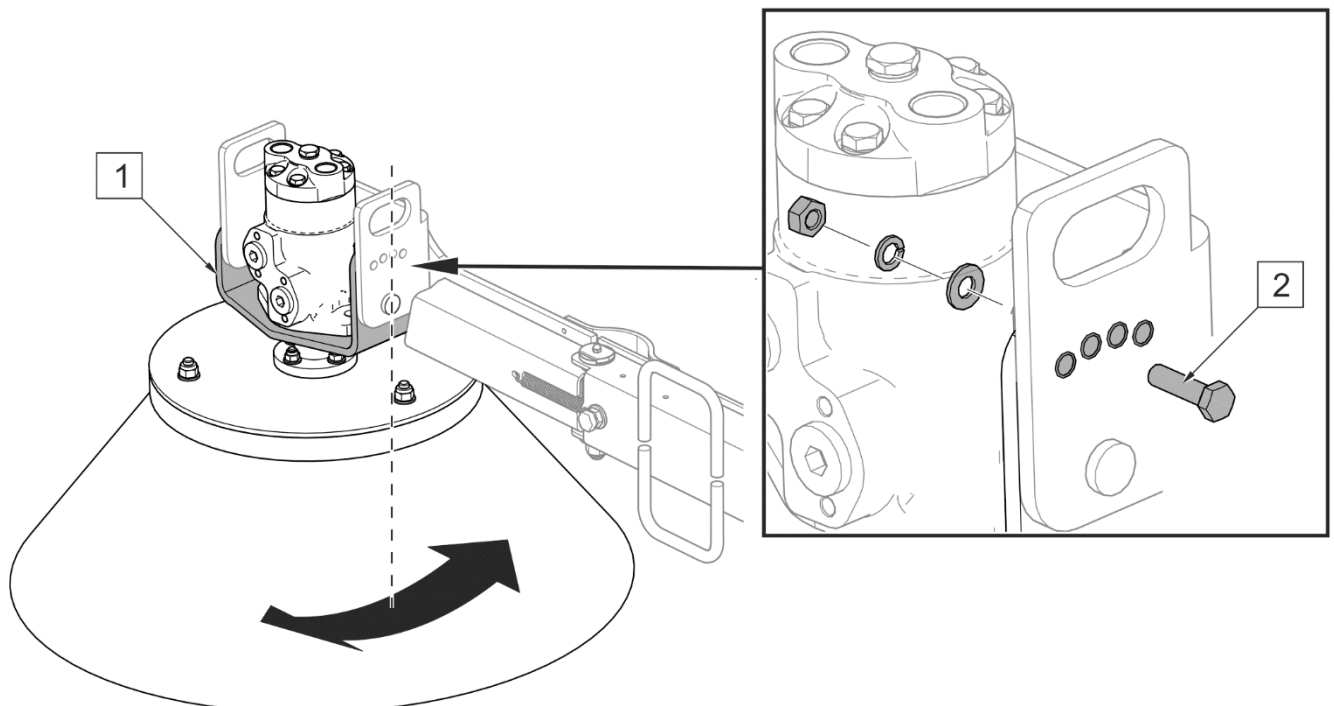

FIGURE 5.5 Adjustment of lateral tilt
- Adjustment of lateral tilt (FIGURE 5.5).
(1) - brush head bracket; (2) - adjusting bolt
To change the lateral tilt angle (FIGURE 5.5), unscrew adjusting bolt (2), rotate bracket (1) properly and install bolt (2) in a suitable hole in the bracket.